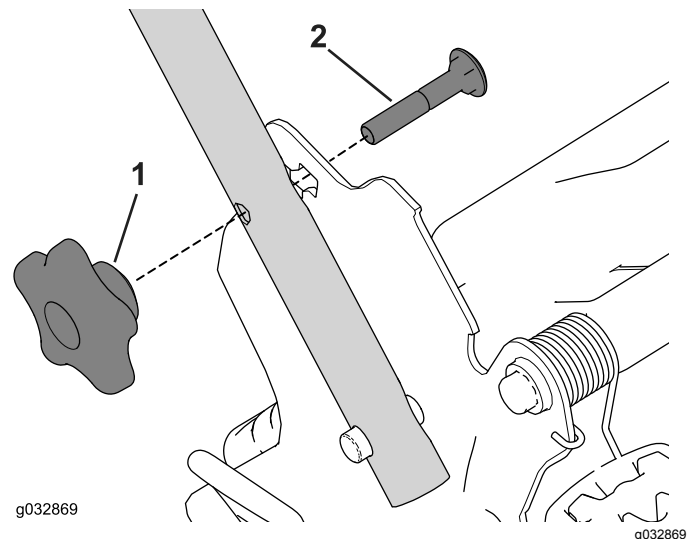

Figure 22
1. Remove and save the 2 handle knobs and 2 carriage bolts from the handle brackets (Figure 22).